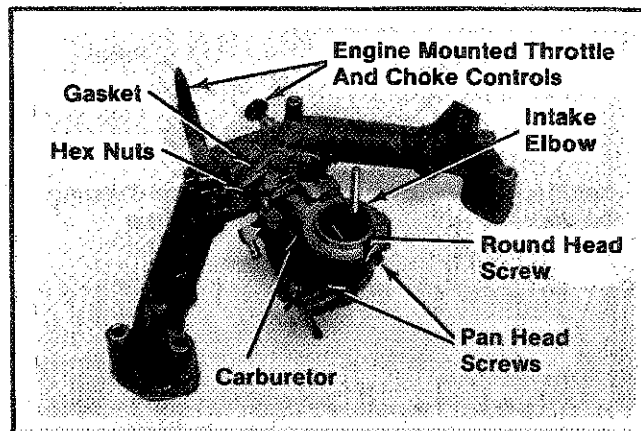

Figure 9-8. Removing Carburetor From Intake Manifold.
6. Remove the hex nuts, carburetor with intake elbow, and gasket from intake manifold. Refer to Figure 9-8.